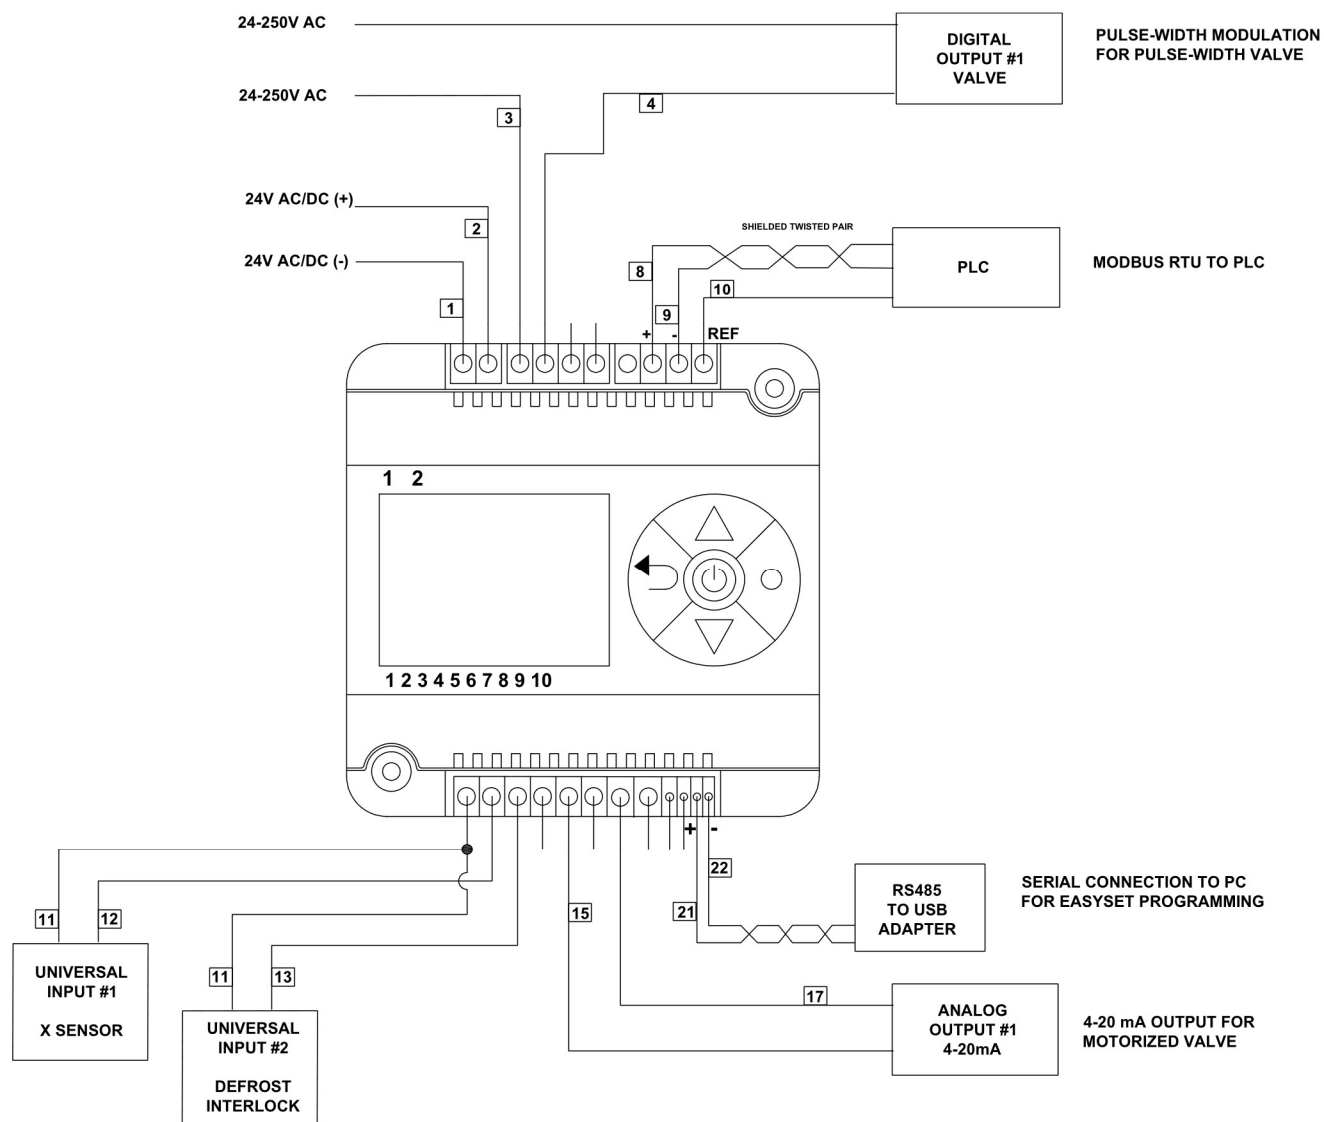

Figure 2. Controller terminal diagram
1. Connect two serial wires to A+ and B- on the controller's operation terminal. Connect the two wires to an RS-485 to USB adapter. Connect the adapter to the PC. See Figure 2.